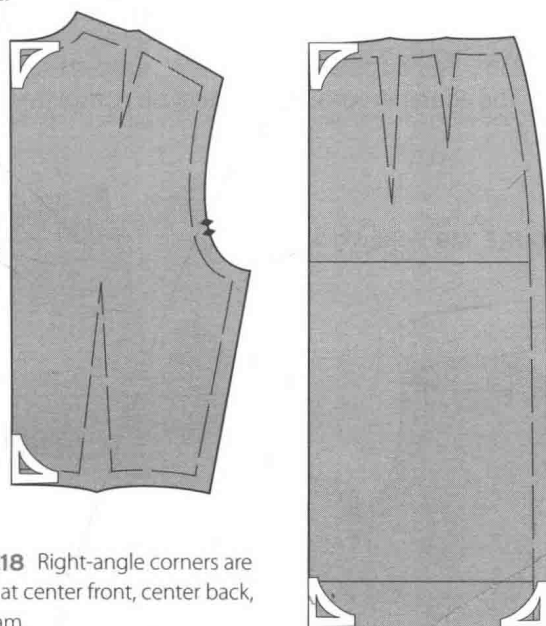

FIGURE 7.18 Right-angle corners
5. Fold lines or seamlines that intersect the center front, center back, or sides must lie at right angles on the basic garment unless designed to do otherwise. This includes necklines, waistlines, and hemlines, which must form right angles (see Figure 7.18).